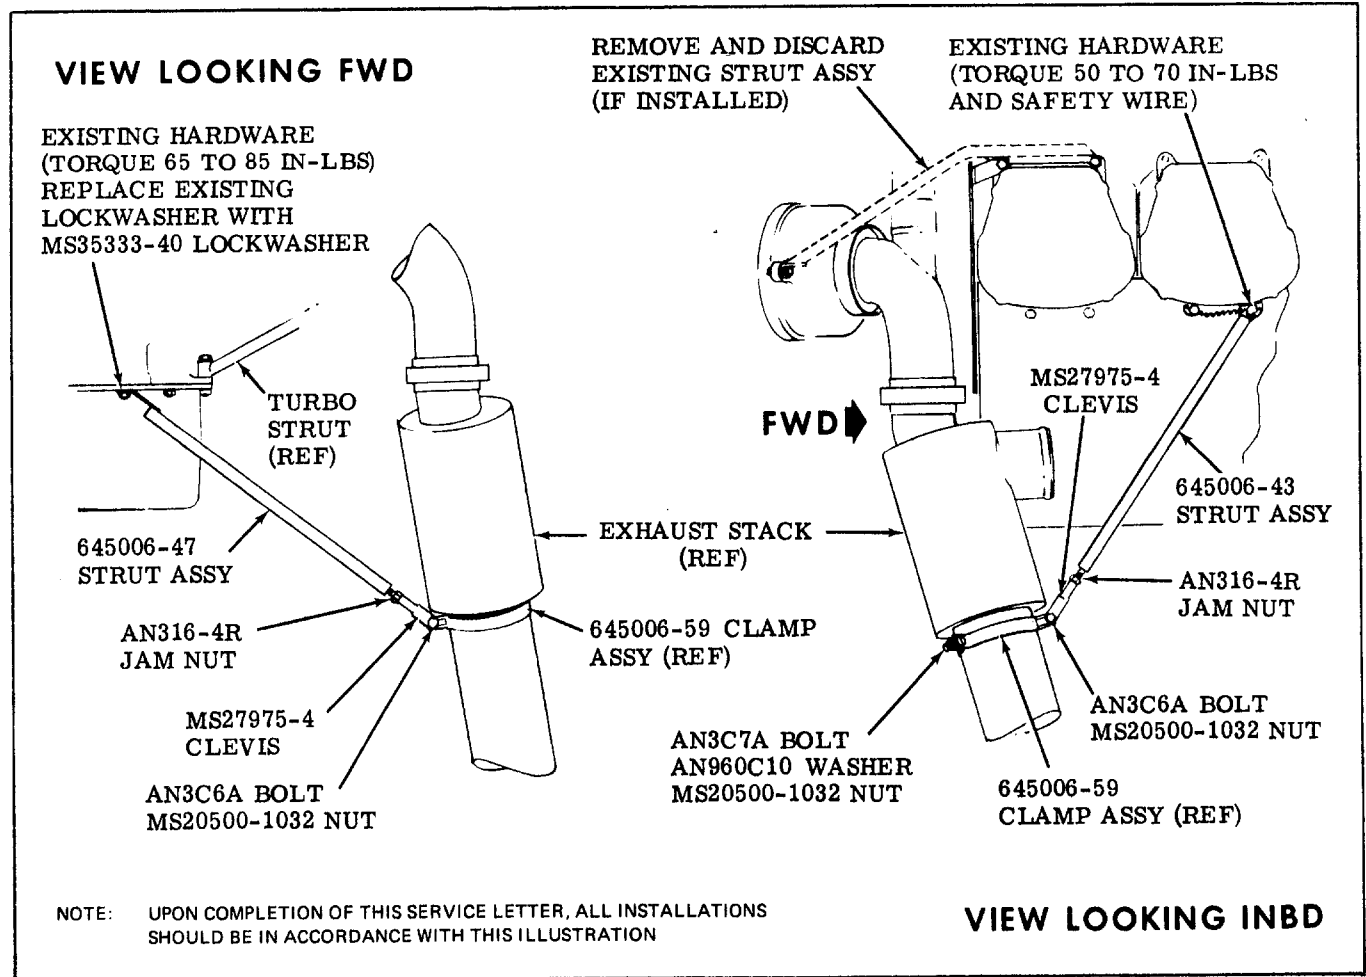

Figure 2.
3. Install 645006-59 clamp assembly on exhaust stack (see Figure 2.).
5. Install 645006-43 strut assembly, 645006-47 strut assembly and MS35333-40 lockwasher (under nut on upper end of -47 strut assembly) on engine and temporarily connect to clamp assembly installed in step 3. (see Figure 2.).
2. Remove and discard existing upper strut assembly from engine and retorque nuts on engine 50 to 70 inch-pounds (see Figure 2.).
3. Remove and discard existing clamp assembly from exhaust stack (see Figure 2.).
4. Install 645006-59 clamp assembly on exhaust stack and existing strut assemblies using existing hardware (see Figure 2.).